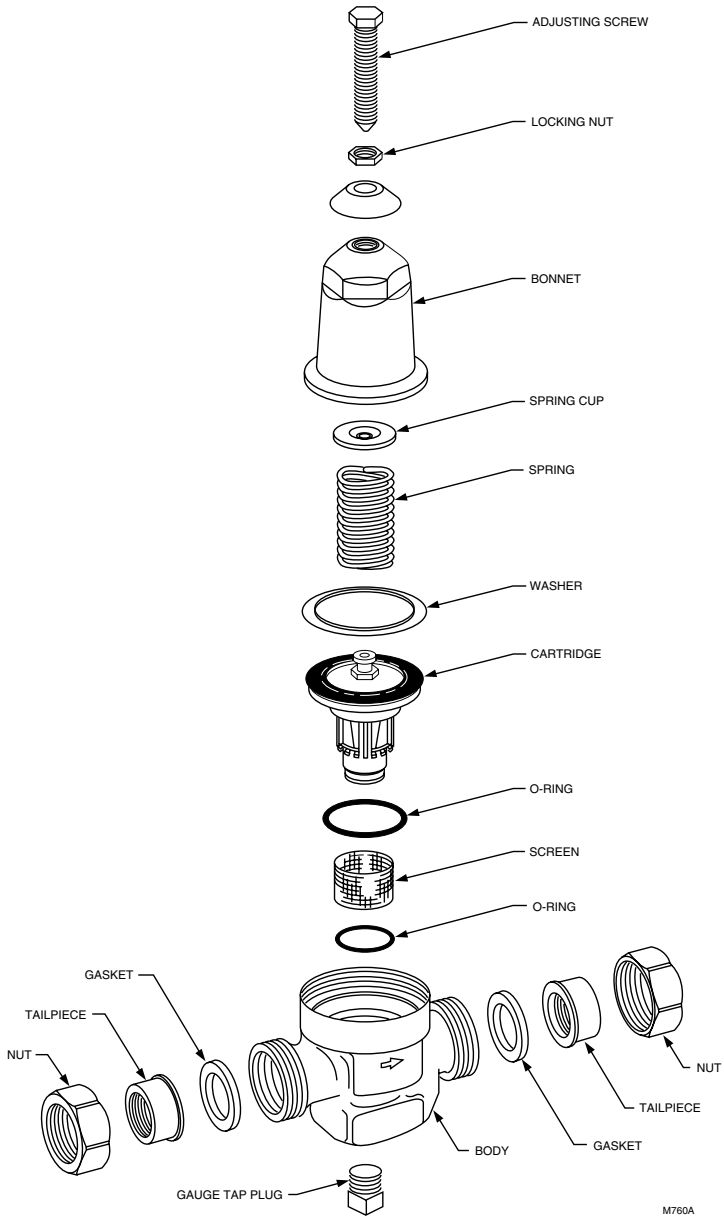

Fig. 3. D05 exploded view.
- 4 Remove the cartridge using two screwdrivers as levers as shown in Fig. 3.
- 10 Replace the spring, spring cup and bonnet (see Fig. 3).